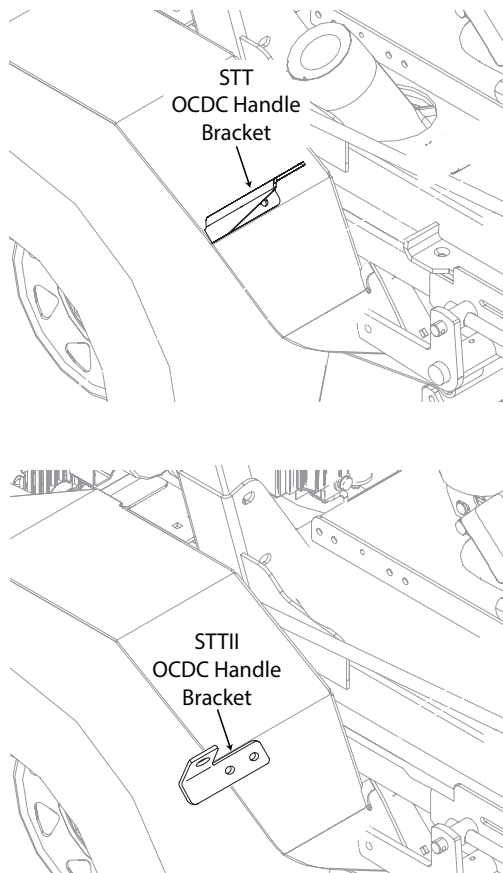

Figure 3-29. STT & STTII OCDC Handle Bracket
13. For STT/STTII-52V/61V-OCDC, position the OCDC handle bracket on the right side fender and align as shown in Figure 3-29.